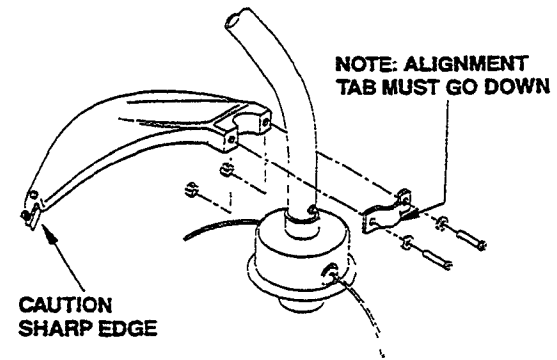

Fig. 2
- Install rotary head shield (Fig. 2). **NOTE:** Head shield **must** be installed to prevent driveshaft failure due to excessive line length.